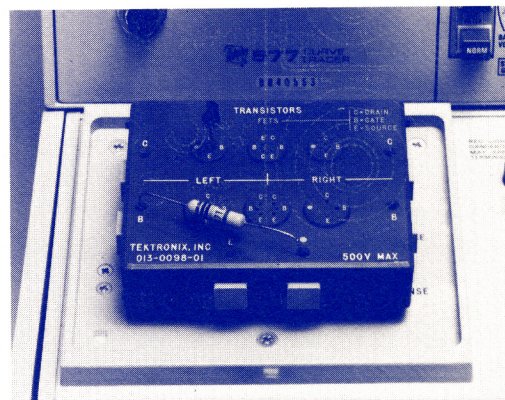

Figure 0-2. Device inserted in socket.
- 5) Insert-device — Insert device to be tested, PUJT Gate into yellow dot socket, PUJT anode in collector position, PUJT cathode in emitter position. See Figure 0-2.
- 6) Add gate resistor. Again referring to Figure 0-2, add specified gate resistor [1 M Ω] between yellow dot and base external-connection terminals on edge of socket adapter. To open hole for resistor lead insertion, press square button (on side of adapter) nearest hole.